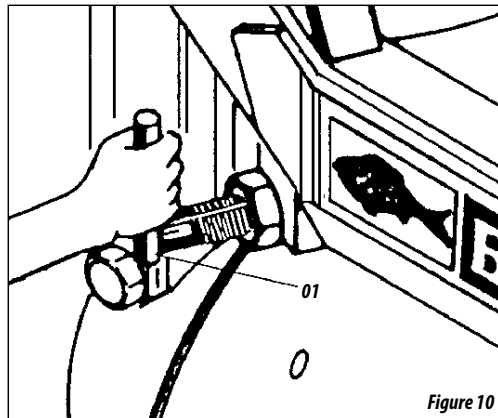

Figure 10
- 01 - The cutting width is adjusted with the screw item 1 Fig. 10. Moving the screw out, the cutting width increases. To maintain plowing uniformity, the screw should be adjusted, leaving always the same distance between the screw head and its base on both sides.